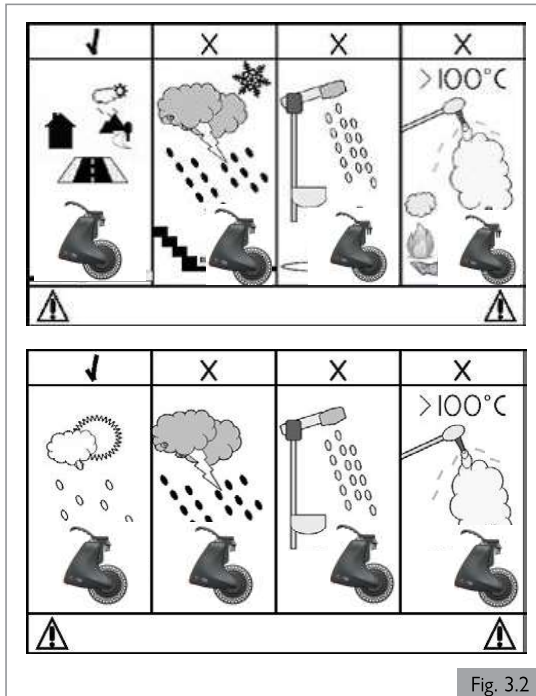

Fig. 3.2
3.4 Area of application: The user environment (Fig. 3.2)